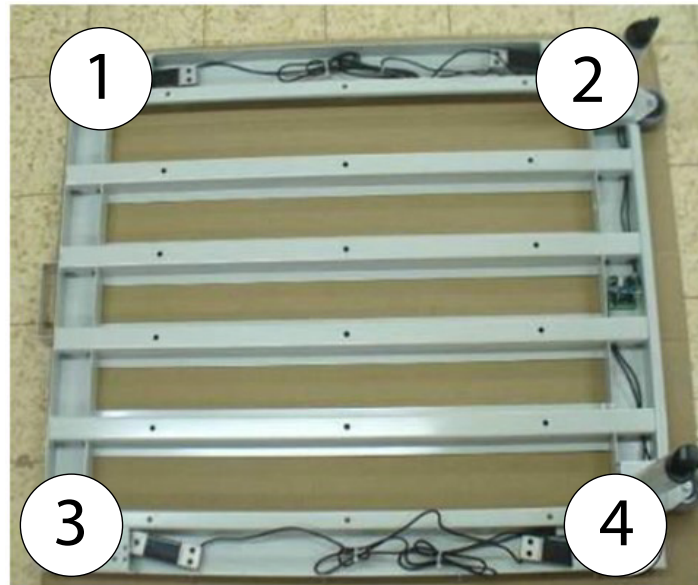

Figure 7. Weight Placement Locations on Scale Base
5. Place calibration weight on corner 1 (see Figure 7). Record the A/D value.
- To align the scale from side-to side, place a weight between corners 1 and 2 (see Figure 7 on page 4). Record the A/D value.